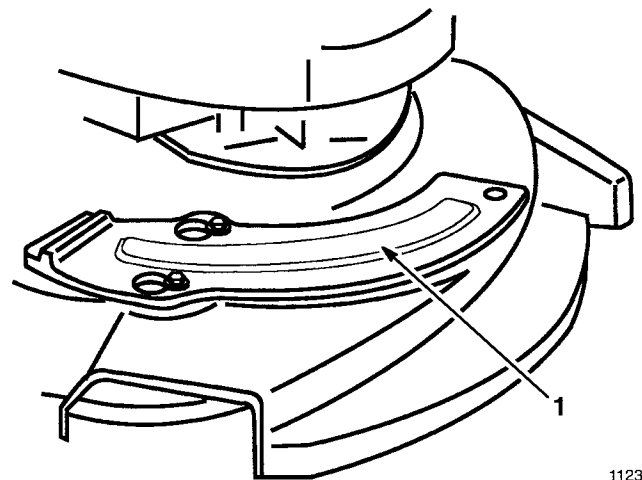

Figure 44
2. Insert mulch plate into housing opening (Fig. 44).